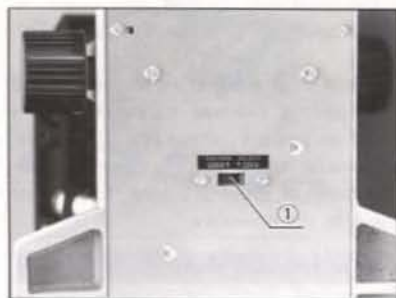

Fig. 4
Set the line voltage selector switch ① located at the base plate of the microscope stand to the local line voltage (Fig. 4 shows the setting of the switch at 100V).